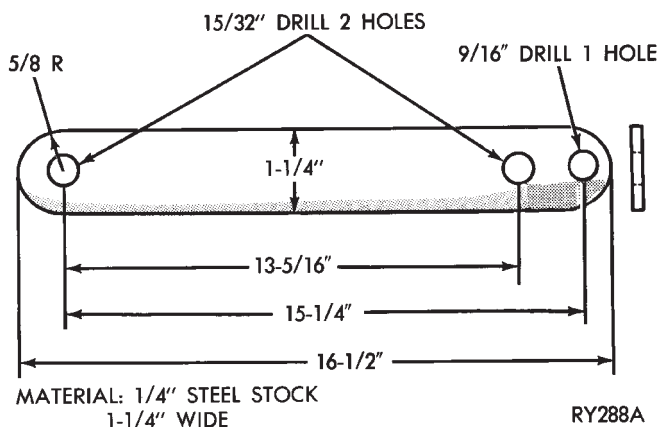

Fig. 6 Hub Seal Cup Retaining Strap
(2) With rotary motion, install converter hub seal cup over input shaft, and through the converter hub seal until the cup bottoms against the pump gear lugs. Secure with cup retainer strap (Fig. 6) using starter upper hole and opposite bracket hole.
(3) Attach and clamp hose from nozzle of Tool C-4080 to the upper cooler line fitting position in case.